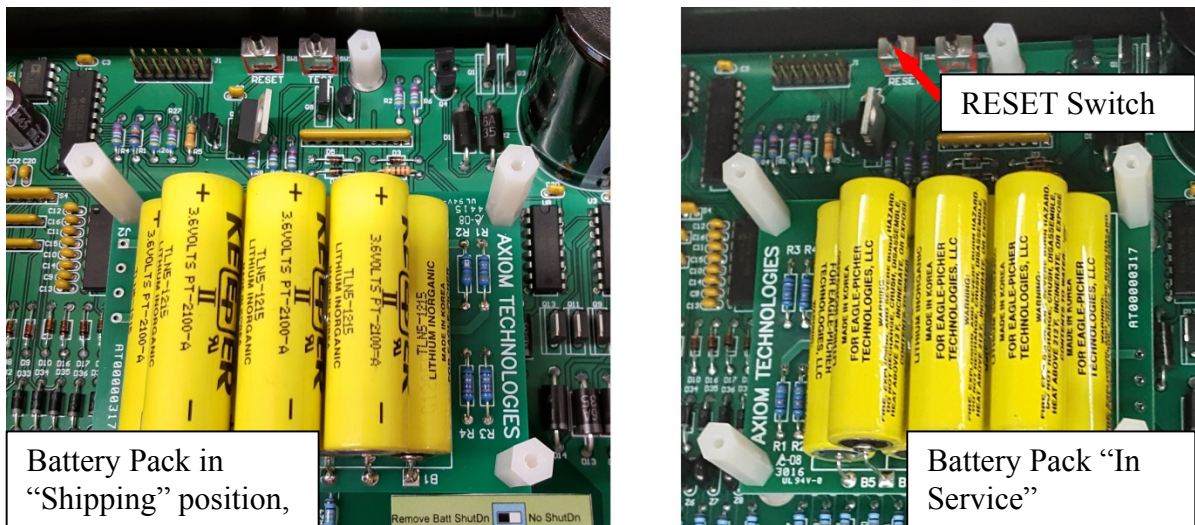

Fig. 2 Battery Pack installation
1. Remove the four nylon nuts holding the battery module, rotate the module 180° and carefully re-install as shown below (see Fig. 2).